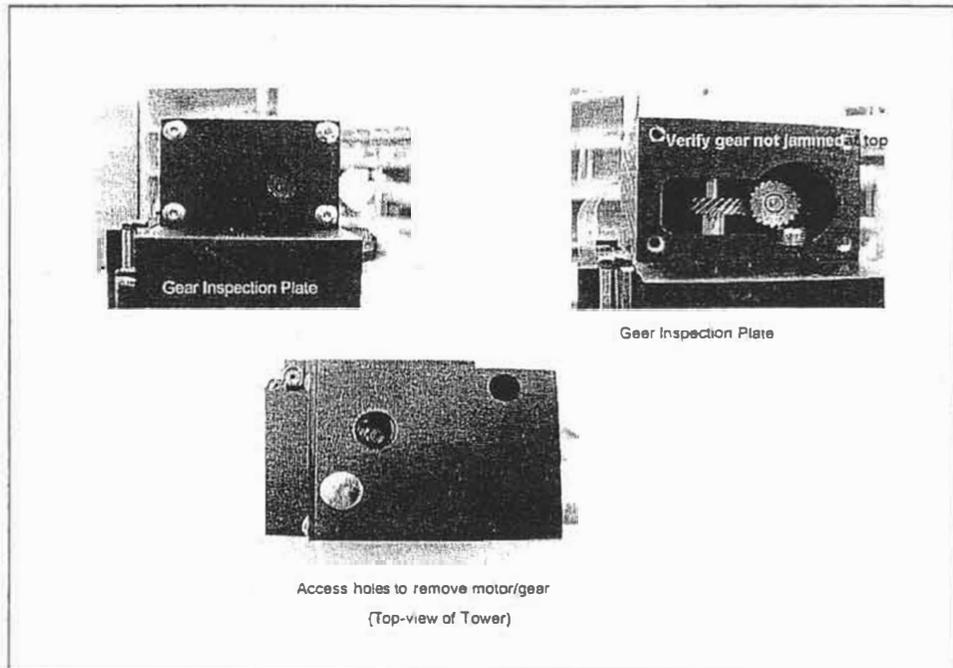

Figure 1.4.1 - Tower Assembly
- .2 Remove the gear inspection window found at the top and side of the tower assembly as in figure 1.4.1.
- .3 Verify that the lead-screw gear has not been pushed all the way to the top (this may occur has crashed into the theta stage). Refer to figure 1.4.1. If the gear has been pushed up then proceed as follows: